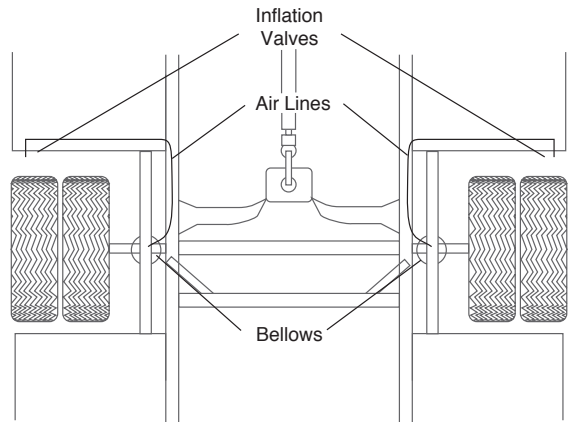

fig. 6
13. Select a location for the inflation valves in the rear bumper area or rocker panel flange ensuring that each valve will be protected and accessible with an air hose. (Fig. 6)
15. Route the air line from the inflation valve location along the frame rail to the air springs. Route the air line so that it will be protected from the direct heat from the muffler or tailpipe and kept away from sharp edges. The air line should not be bent or curved sharply (Fig. 6). Attach air line to chassis with the provided plastic straps.